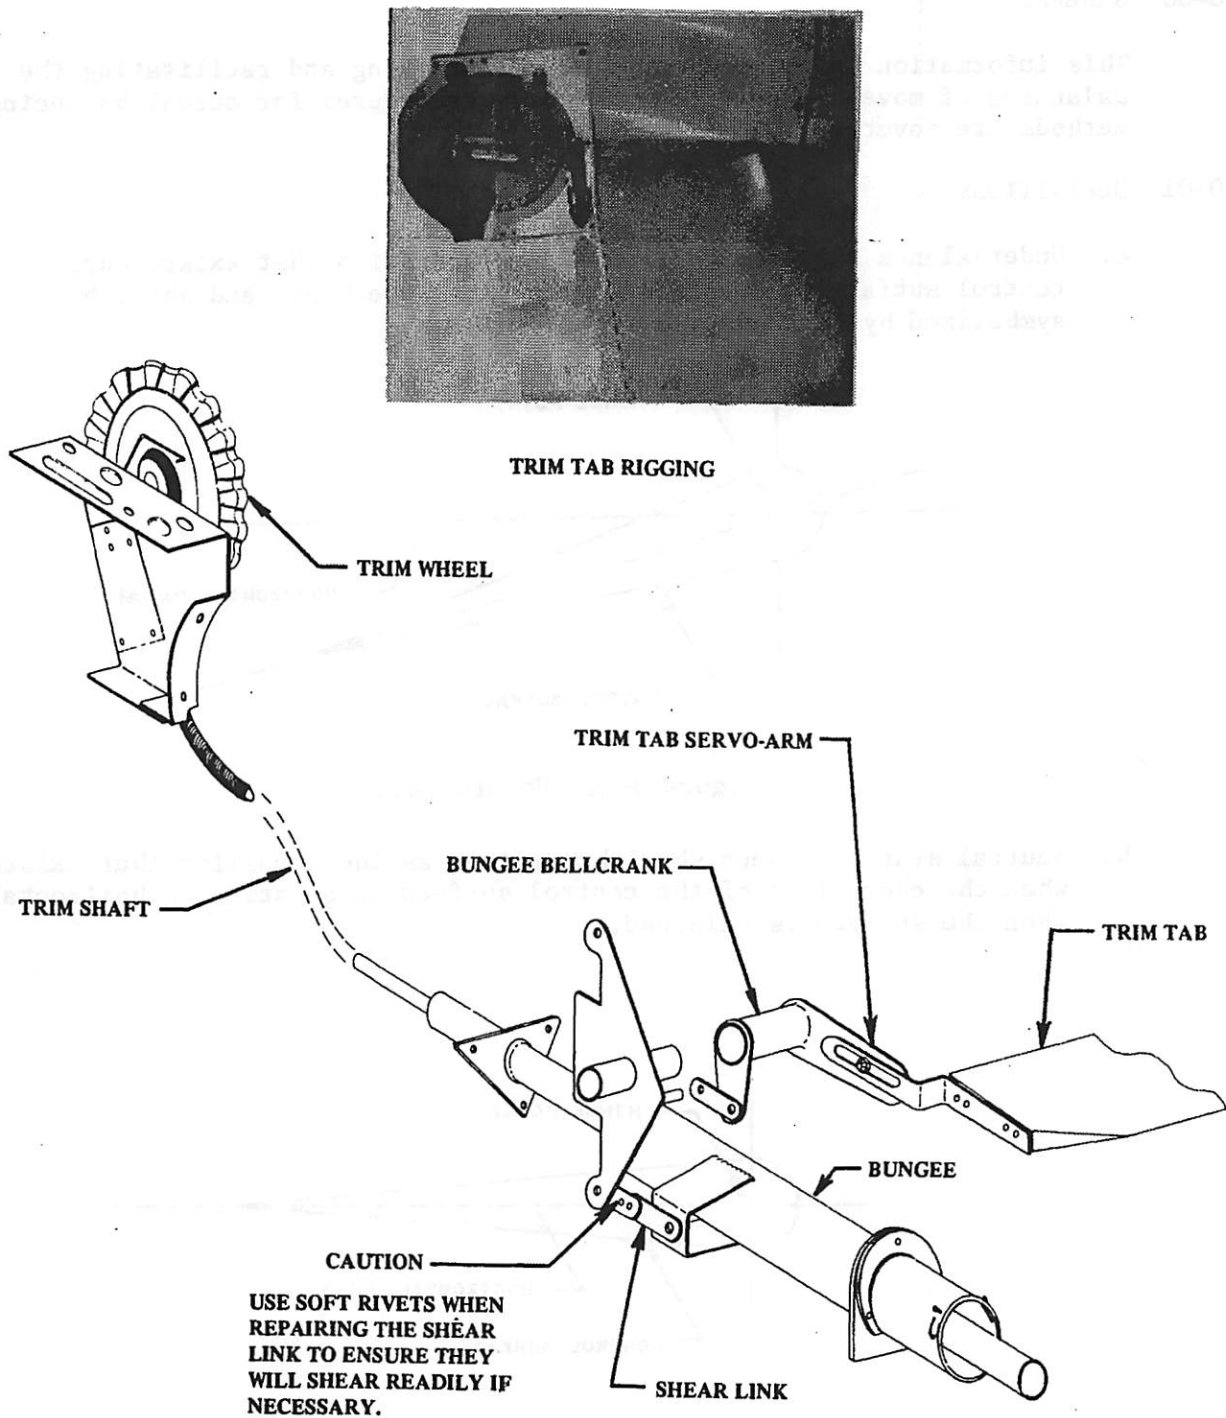

Figure 5-6 Trim System
3. Check the trim tab position at $11^\circ \pm 2^\circ$ down on the AA-1 and $18^\circ \pm 2^\circ$ down on the AA-1A and the AA-1B with respect to the elevator surface. To measure the angle, a "bubble protractor" should be used (See Figure 5-6).
For replacement of the shear-link rivets, see Figure 5-6, Trim System.